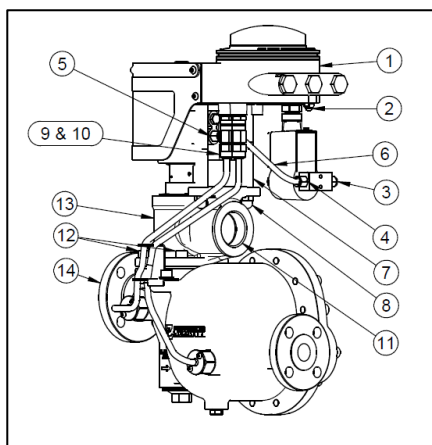

Fig. 7.16
- 1) Position the electronics housing assembly (1) along with the support rod (7) onto the manifold (13) and secure the dome nut (7) at both locations as shown in Fig. 7.16.
- 2) Tighten the dome nuts (7).
- 4) Attach one end of the pneumatic tube to the actuator NC port (5) and the other end to the solenoid outlet port (4).
- 5) Provide air supply to the solenoid inlet port (3).
- 8) Connect the earthing cable (2) from the electronics housing and then power up the electronics.